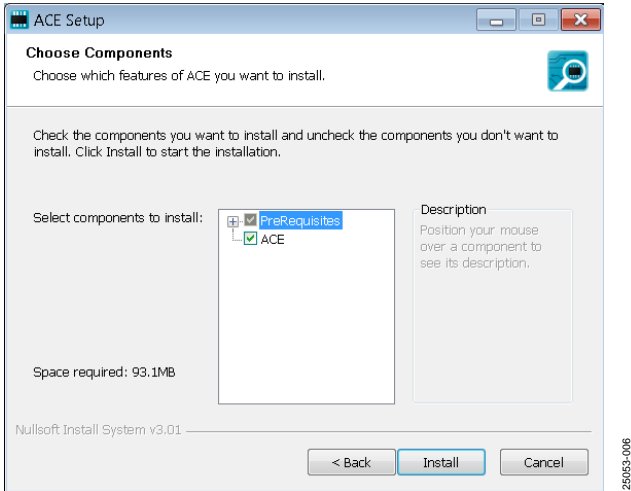

Figure 6. Choose Components Window
- The ACE software components to install are preselected (see Figure 6). Click **Install**.